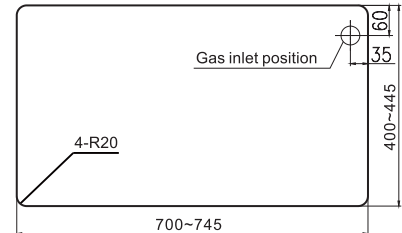

Fig.7 (in mm)
- Cut the opening in the bench top by the cardboard-template given in the hob packing or to the dimensions shown in Fig 7.
- Install the hob in the cut-out. (Fig 7)